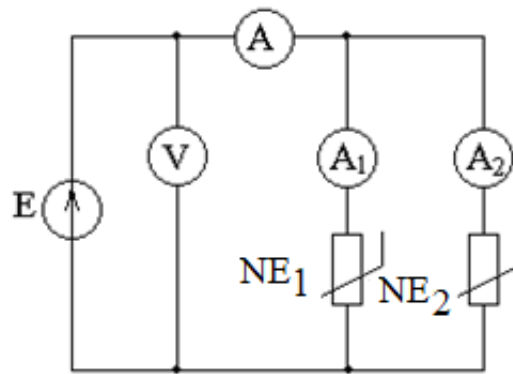

Figure 8.3
- 6) Give an example of the graphical calculation method of the electric circuit with one EMF source and parallel connection of nonlinear and linear resistive elements (figure 8.3).
8.2.3 Assemble an electrical circuit with a parallel connection of two nonlinear resistive elements (figure 8.3). Set the value of the input voltage  $U$  and the linear resistance  $R$ , according to a predetermined variant (table 8.1). Write down the readings of all measuring instruments into table 8.4 (in the “experiment” row).
8.3.4 Make the graphical calculation for the electrical circuit (figure 8.3, p. 8.2.3), write down the results into table 8.4 (in the row - “graphical calculation”), compare the calculated values with the experimental ones.